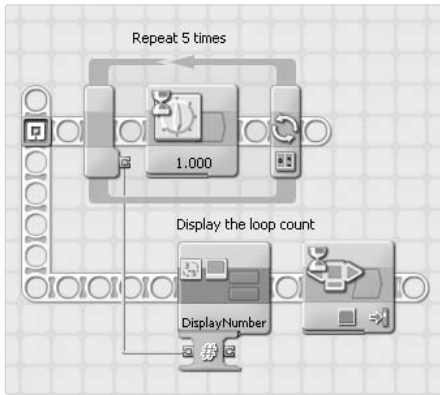

Figure 17-11: The LoopCountTest program
A data wire that starts inside a Loop block and connects to a block outside the Loop block will have a value only when the Loop block finishes. The LoopCountTest program shown in Figure 17-11 shows an example of this rule. The Loop block repeats five times, pausing for a total of five seconds. The DisplayNumber block on the bottom Sequence Beam displays the value written to the data wire from the Loop block's Loop Count data plug. Because the DisplayNumber block is outside the Loop block, only the last value (4) is passed to it on the data wire, and only after the Loop block has finished. When you run this program, it will pause for five seconds and then display 4. This rule also applies to the Switch block; data wires that leave a Switch block will have a value only after the Switch block completes.